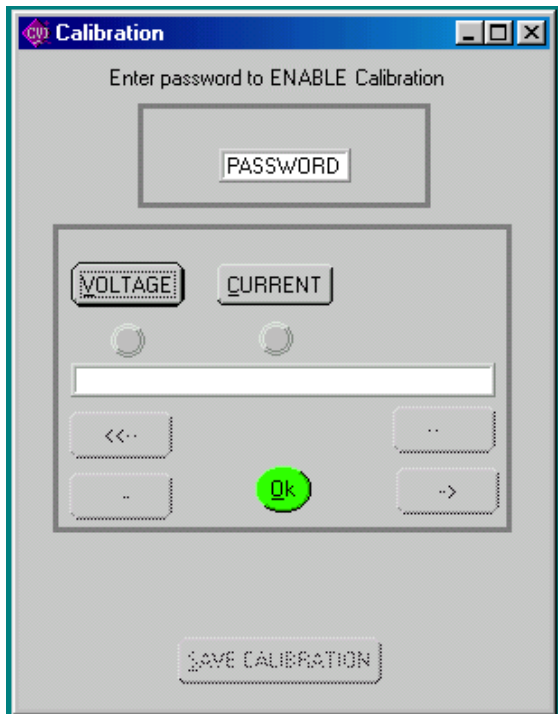

FIGURE 7. CALIBRATION WINDOW (HALF RACK)
2.2.7 The **Calibrate** button The **Calibrate** button opens the Calibration Window (Figure 7), and is used to recalibrate the unit (see Section 4 of the BKH Technical Manual).